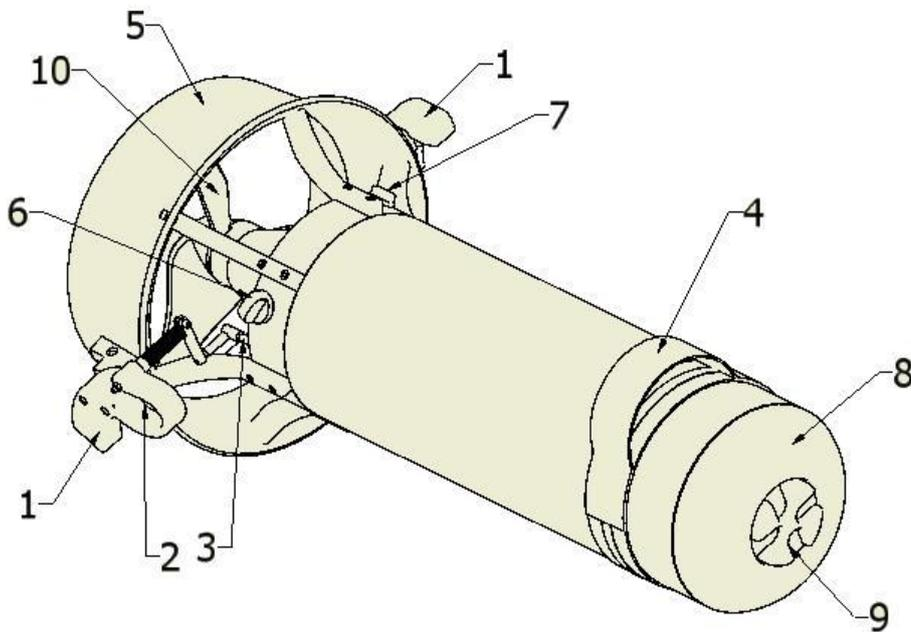

Figure 1
| 5 | Correct use (see fig. 1) | 11 |
The ADV consists of a perfectly watertight, streamlined, hollow body, see figure 1, inside which the electric motor, rechargeable batteries and speed-reduction gear are housed. On the outside, two manoeuvring handles (1) are found at the rear, one of which has an integrated trigger (2) to control propeller rotation by means of a magnetic reed switch (3). At the front, a handle in synthetic material (4) is used for gripping and carrying the vehicle. The propeller (10) is located at the rear end and is protected by a surrounding circular strip which constitutes the flow conveyor (5). The main switch (6) for turning the power on and off and the speed regulator knob (7) are also found at the rear.
Turn the front hand wheel (9) counter-clockwise. Rotating the hand wheel, the shell (8) (see fig. 1) start to lift. Continue rotating until the shell detaches from the main body. Remove the shell.
5 CORRECT USE (SEE FIG. 1)
Turn the switch (6) (see fig. 1) fully clockwise without forcing it.
Grasp the two ADV handles (1) (fig. 1) or, if using the tow cord, hook the carabineer to the tow sling.